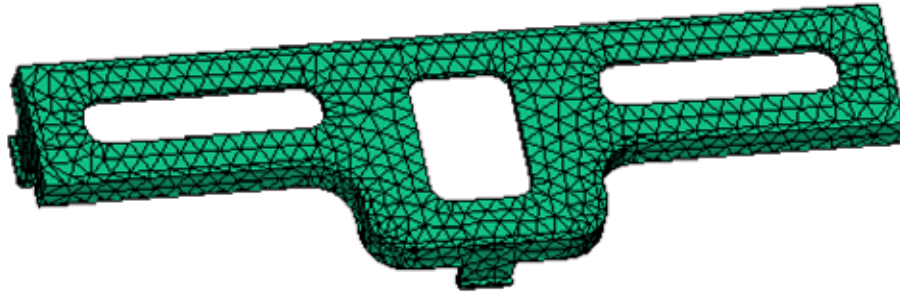

Figure 14: Meshed snap3 cover model
- Your model should now appear as shown in Figure 14.